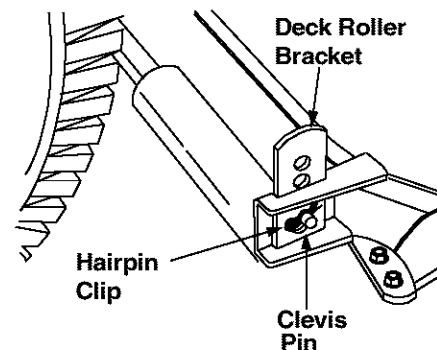

Figure 11
- Remove the clevis pins and hairpin clips from the deck roller brackets on the left and right sides of the cutting deck. See Figure 11.
- Position the deck roller brackets up or down through the slots on the rear of the deck until desired position is reached, then re-attach with the clevis pins and hairpin clips just removed. See Figure 11.